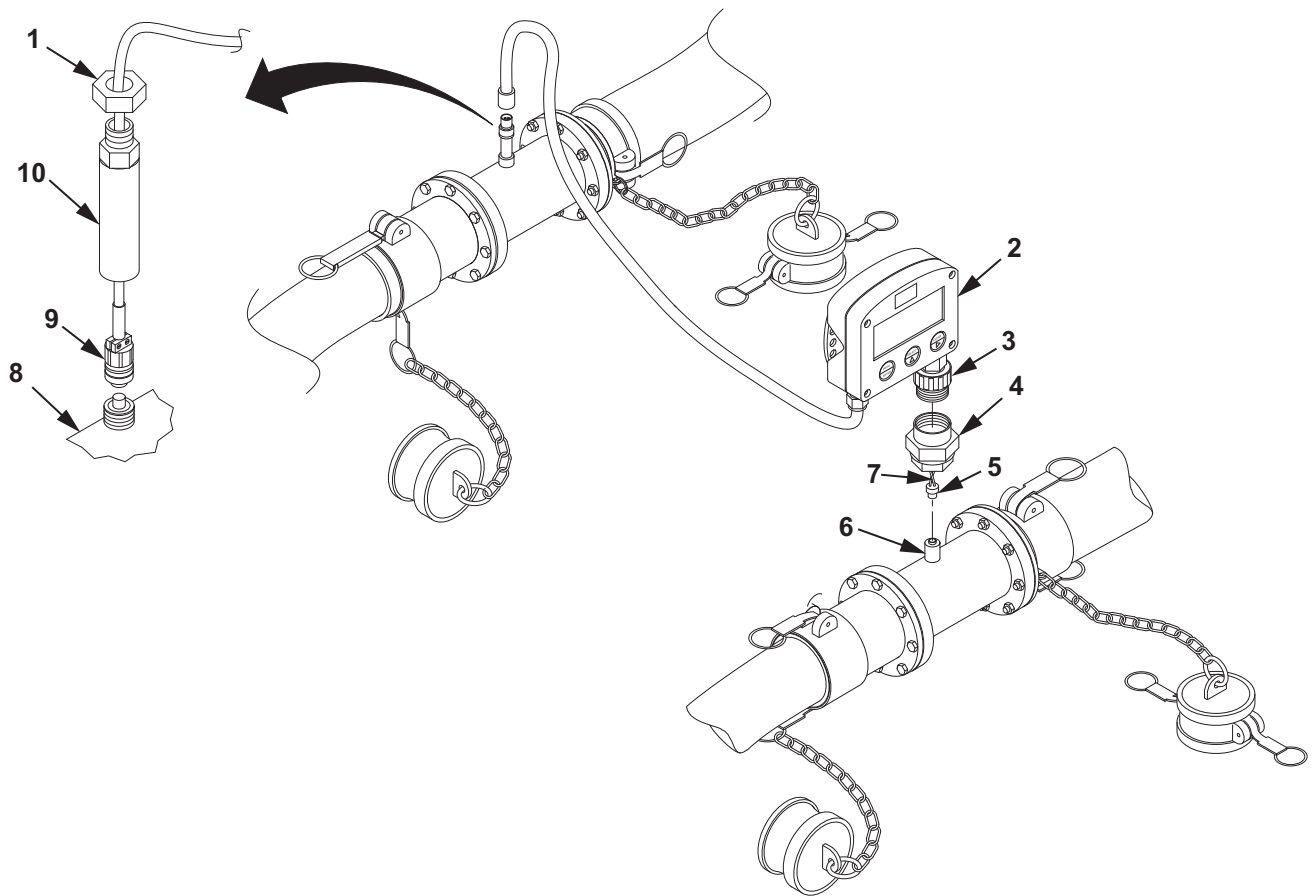

Figure 1. Tank Volume Meter Monitor Removal.
3. Position the tank volume meter monitor (Figure 1, Item 2) on the magnetic pickup (Figure 1, Item 6).
4. While keeping the tank volume meter monitor (Figure 1, Item 2) stationary, tighten union (Figure 1, Item 4) by turning the nut (Figure 1, Item 3) clockwise in the opposite direction of the arrow.
5. Connect amphenol connector (Figure 1, Item 9) to the tank input volume meter (Figure 1, Item 8).
6. Slide weatherproof housing (Figure 1, Item 10) over amphenol connector (Figure 1, Item 3) and hand tighten weatherproof housing (Figure 1, Item 10).
7. Tighten wire nut (Figure 1, Item 1) on weatherproof housing (Figure 1, Item 10).